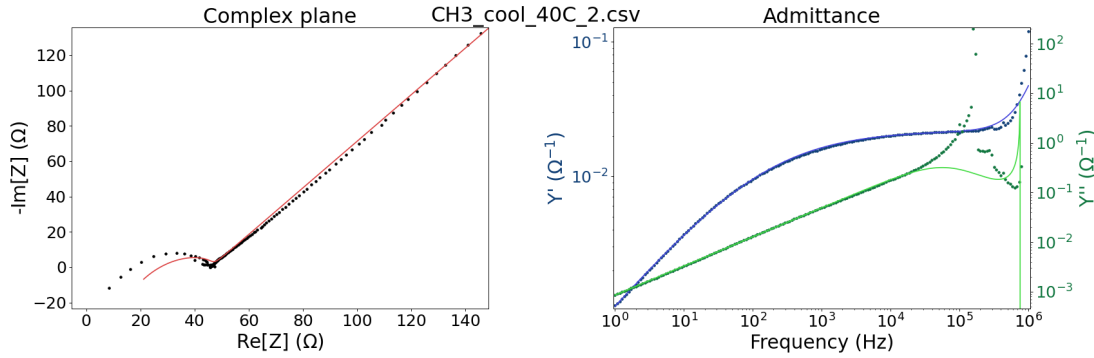

Figure 21: Alternative view of the $\text{RbOH} \cdot x\text{H}_2\text{O}$ spectrum.
10. To verify that the fit is of good quality, it is worth looking at the result in a few different plot types. For example, changing the right-hand side plot to **Y' and Y'' vs. frequency** (Figure 21) reveals a few measurement artifacts around 100 kHz and the apparent breakdown of the model above 600 kHz.